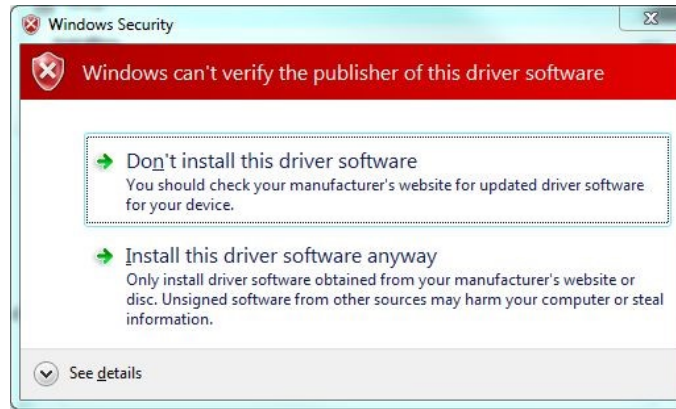

Figure 45 Hardware wizard. Install driver software anyway
6. If the **Windows Security** window appears, select **Install this driver software anyway**, see *Figure 45*.